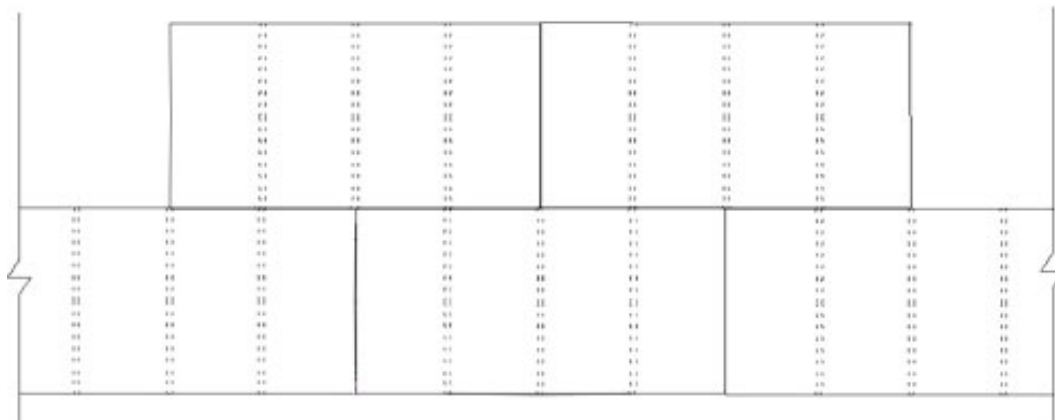

Figure 28
- 6. Install subsequent rows of insulation board in a running bond pattern (vertical joints staggered) as shown in Figure 28.